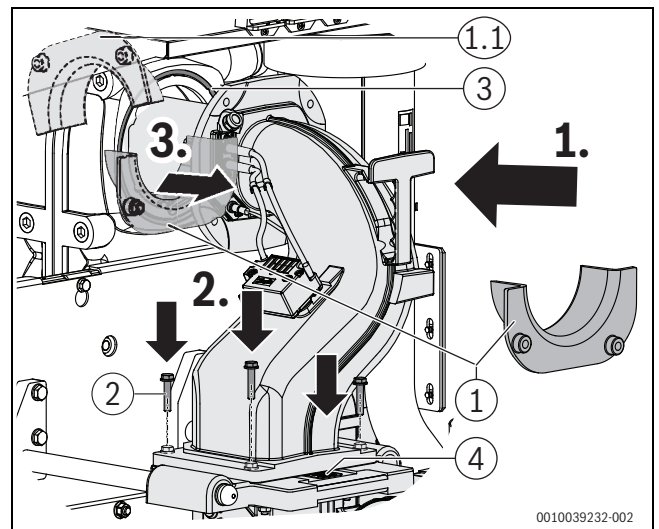

Fig. 77 Install the mixture manifold with burner rod using the installation aid
There is an indicator window on the top of the flange which allows a check to be carried out from the outside to determine whether the gasket is inserted (→ Fig. 77).
- Install the ignition transformer connecting cable as shown in Fig. 77.